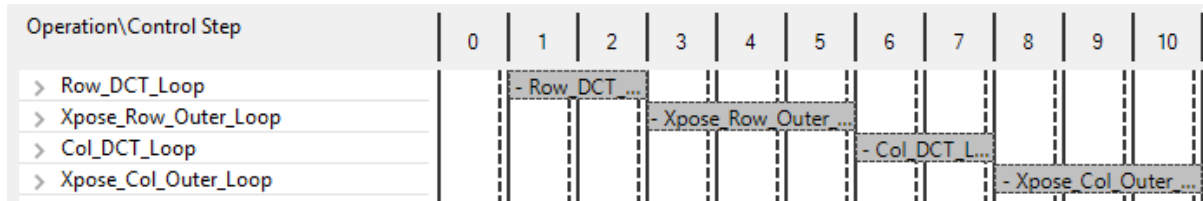

Figure 6-10: DCT_2D Schedule Viewer
6. In the Module Hierarchy pane, click the function **dct_2d** to navigate into the view for this function (Figure 6-10).
In the Performance Profile you can see that the latency of all the loops has been substantially reduced (`Row_DCT_Loop` and `Col_DCT_loop` have been approximately halved from the earlier report in Figure 6-10). However, the majority of the latency is still due to these two loops, each of which calls the `dct_1d` block.